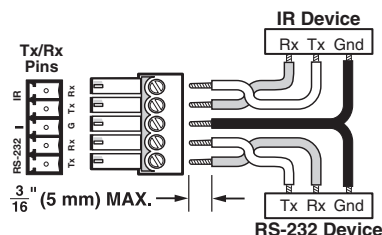

Figure 18. RS-232 and IR Connector Wiring
Figure 18 shows how to wire the RS-232 and IR connector.
1. Plug the HDMI cable into the panel connection (see figure 18, ①).